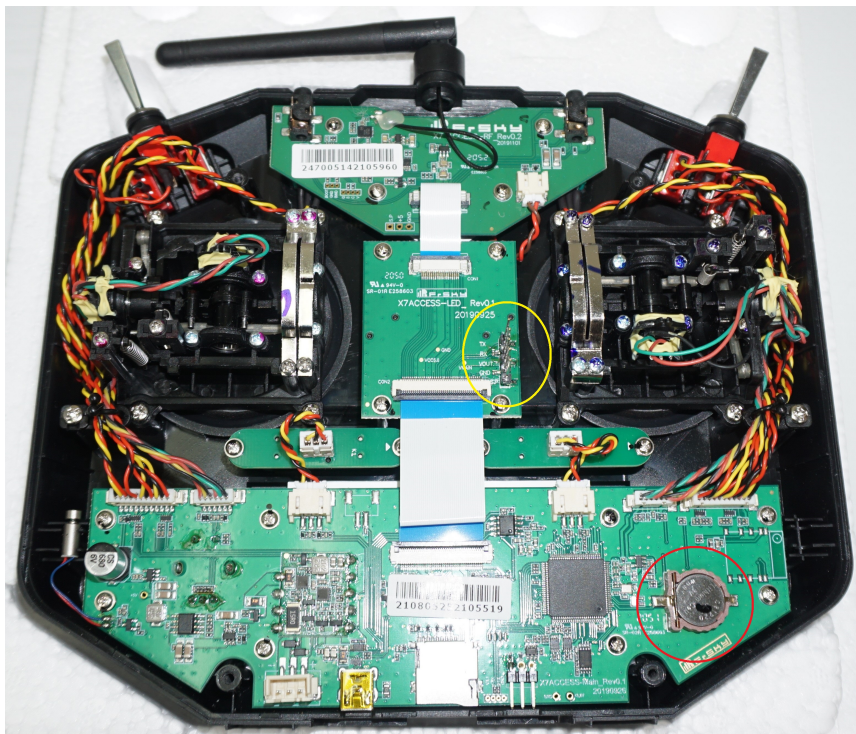

Figure 69: RCU RTC Location
8. Locate the RTC battery(circled red in Figure 69) and remove it.
10. Carefully put the two case halves together. Verify the module bay pins (circled yellow in Figure 69) slide through the slot (Figure 16).